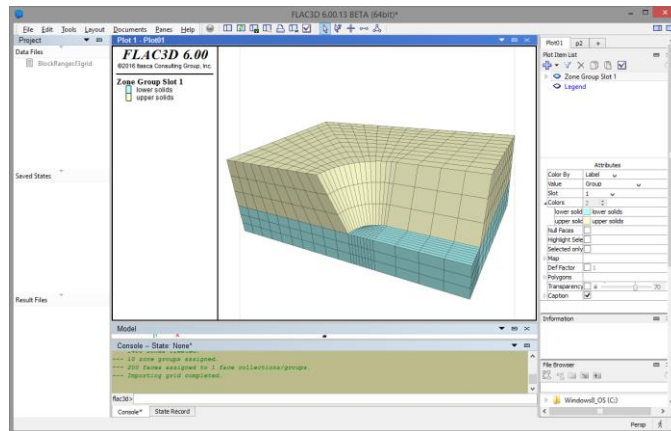

Figure 85: In *Rhino*, solids organized in layers are processed into **FLAC3D** groups.
3. If your **OutputFormat** parameter was **FLAC3D**, start **FLAC3D** and select the **File|Import|Grid** menu item in **FLAC3D**. Select **BlockRanger.f3grid** to **view** your model in **FLAC3D**. For **other** output formats, run your **application** and import the grid. Note that *Rhino* layers become groups (slot 1) in **FLAC3D** (Figure 85).